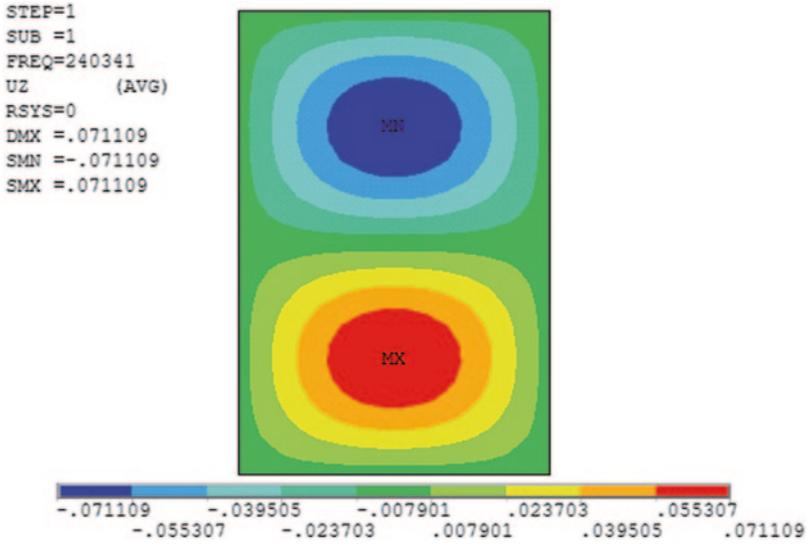

Fig. 8.53 Contour plot of u_z field (z-displacement) under first buckling mode
- The contour plot will appear in the *Graphics Window*, as shown in Fig. 8.53.